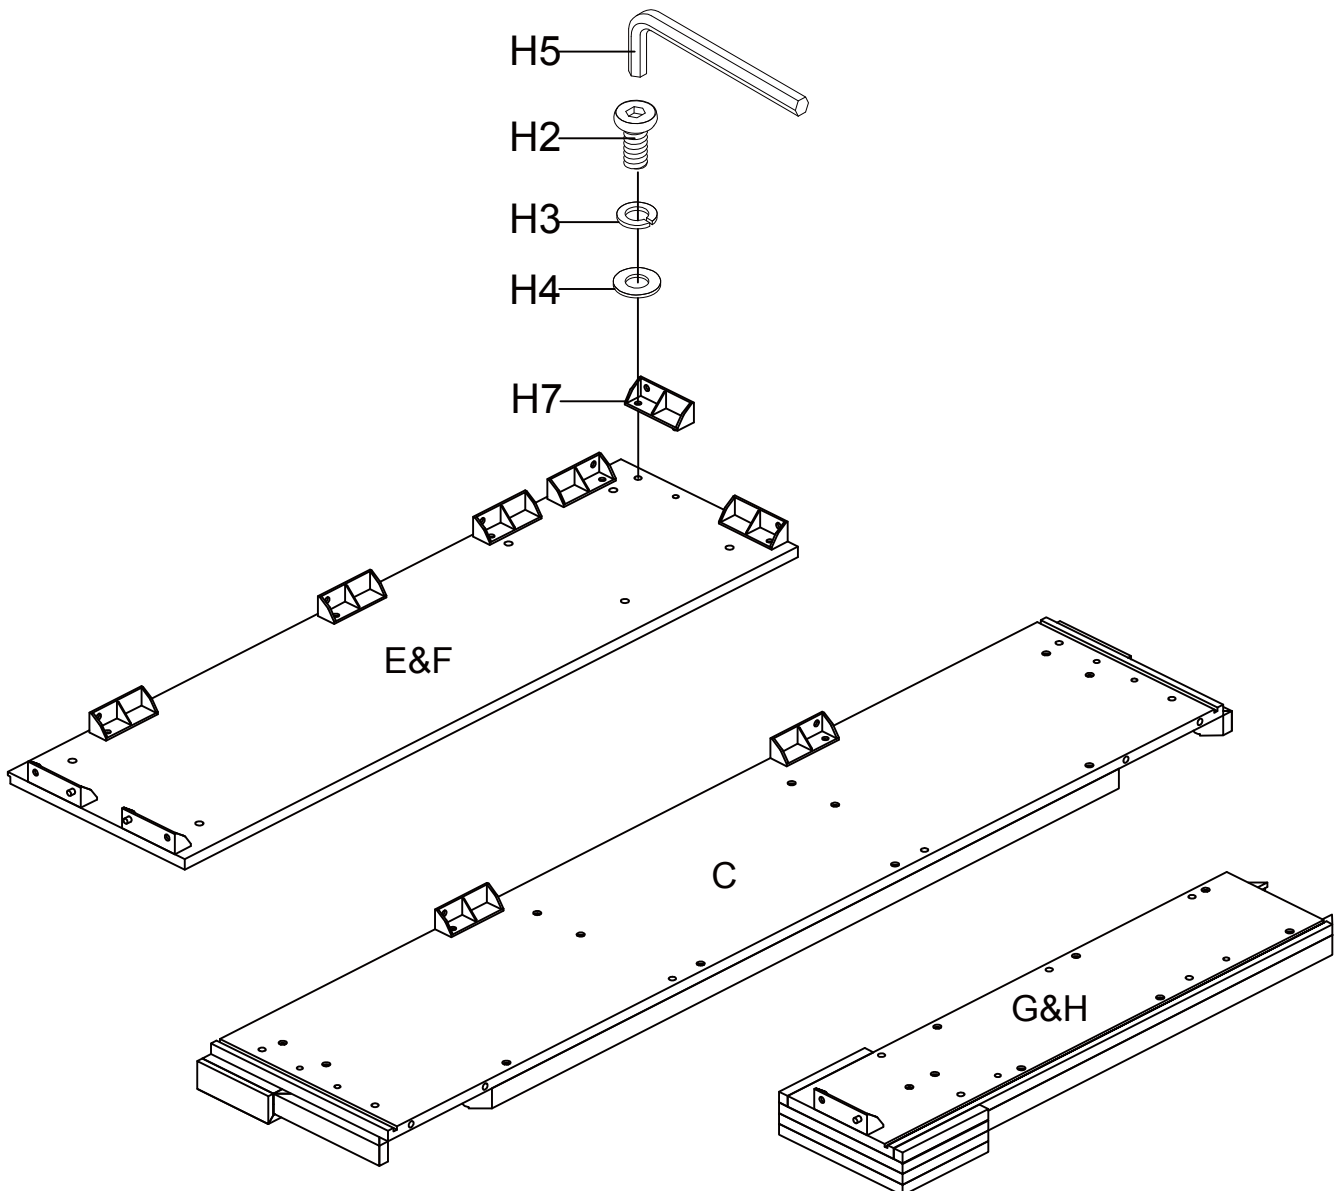

Figure 1
Place Left side panel (E) face down on a soft smooth surface. The side with the screw holes should be facing up. Align the holes of Bracket (H7) with the screw holes of Left side panel (E) with the tenons of Bracket (H7) facing outward as shown in Figure 1. Secure Bracket (H7) to Left side panel (E) with Short bolt (H2), Spring washer (H3) and Flat washer (H4) using Allen wrench (H5). DO NOT fully tighten bolts in this step. Repeat this procedure to attach Brackets (H7) to Front panel (C), Left post (G), Right post(H) and Right side panel(F).